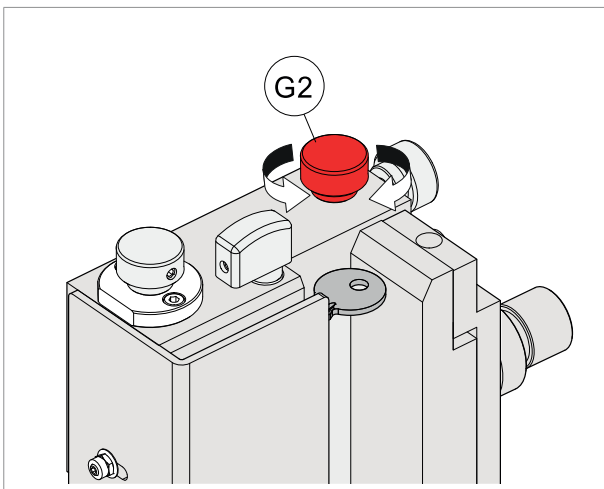

Fig. 111
- 2) Adjust the knob (G3) until the key enters and slides down the loader without too much play (Fig. 111).
Use the knob (G2) (Fig. 111) to increase or decrease size until the right dimension is found. When adjustments have been made, tighten the knob (G6).